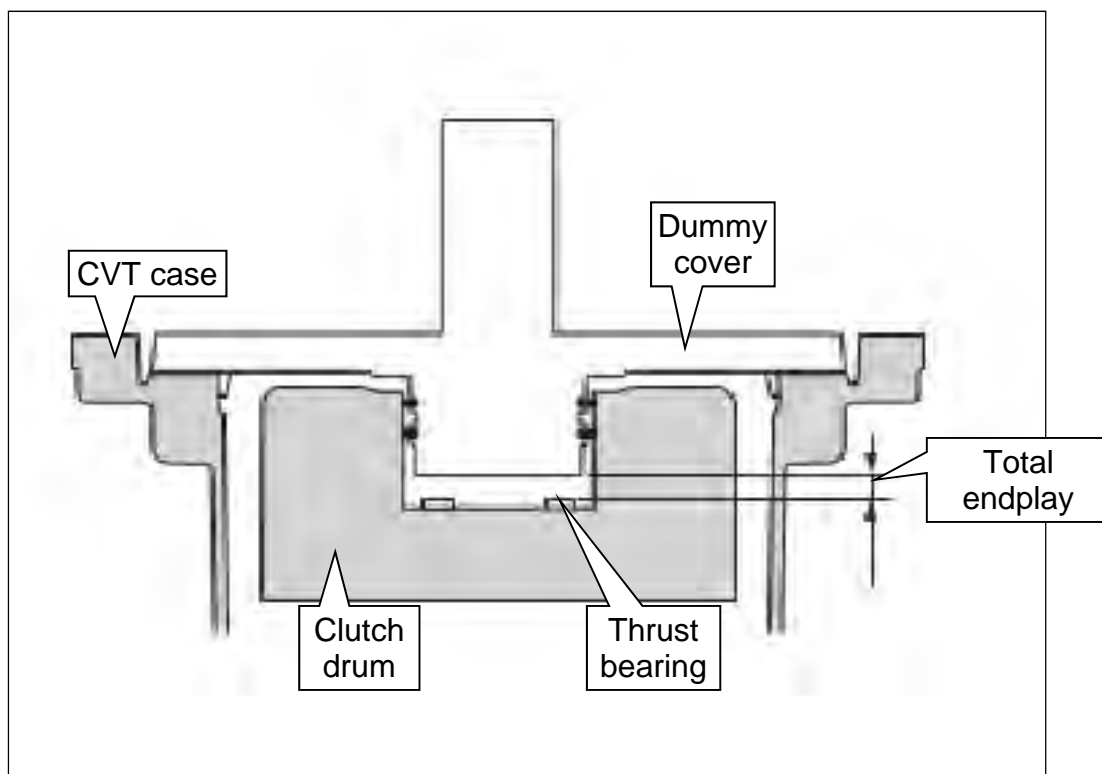

Figure 121
**IMPORTANT:** Using thrust bearings, the clutch total endplay (Figure 121) must always be adjusted between the clutch drum and the dummy cover when a new sub-assembly is installed.